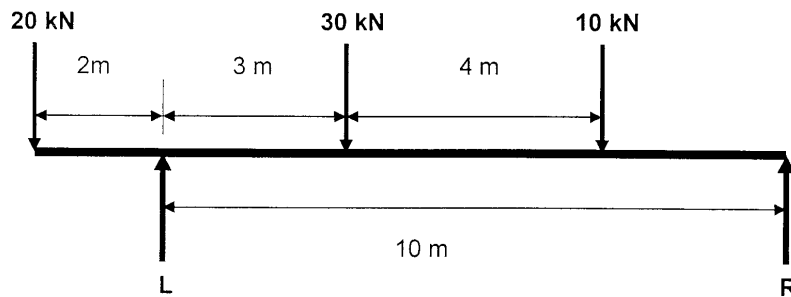

FIGURE 2
- 3.2 FIGURE 2 below shows a horizontal beam resting on two supports L and R. The beam carries a 20 kN load at the left-hand end of the beam, a 30 kN load 3 m from the support L and a 10 kN load at 4 m from the 30 kN load. L and R are 10 m apart. Ignore the self weight of the beam.